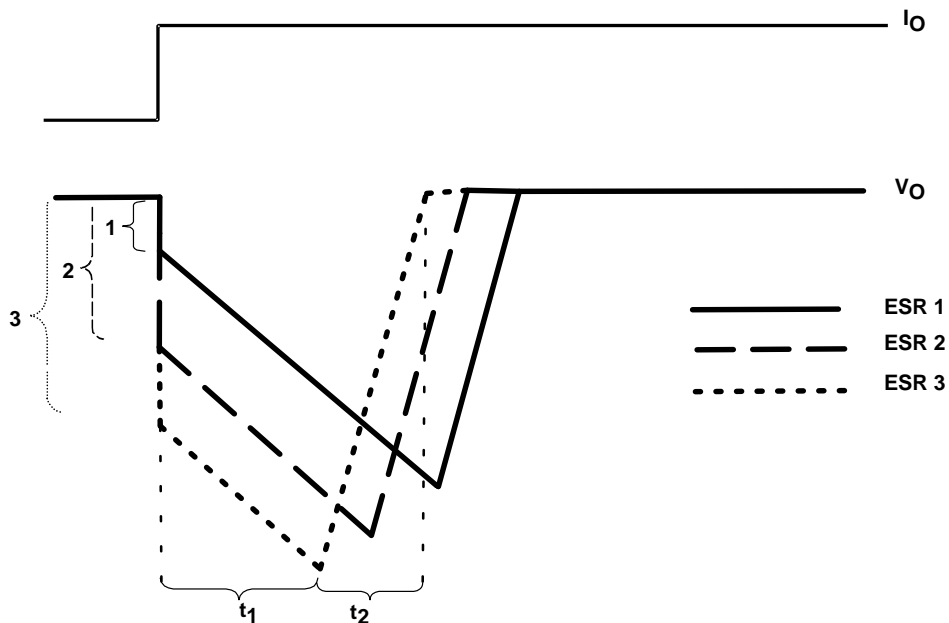

Figure 39. Correlation of Different ESRs and Their Influence to the Regulation of V_o at a Load Step From Low-to-High Output Current
- When C_O is conducting current to the load, initial voltage at the load will be $V_O = V(C_O) - V_{ESR}$. Due to the discharge of C_O , the output voltage V_O will drop continuously until the response time t_1 of the LDO is reached and the LDO will resume supplying the load. From this point, the output voltage starts rising again until it reaches the regulated voltage. This period is shown as t_2 in Figure 39.